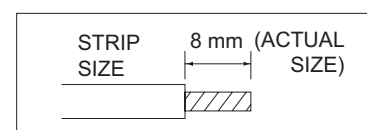

Fig. 2-177
- (1) Cut the wire end with a cutting pliers, then strip the insulation to expose the wire about 8 mm. See the label (Fig. 2-177) near the terminal plate.
- (2) Using a screwdriver, loosen the terminal screw on the terminal plate.
- (3) Insert the wire and tighten the terminal screw completely using a screwdriver.